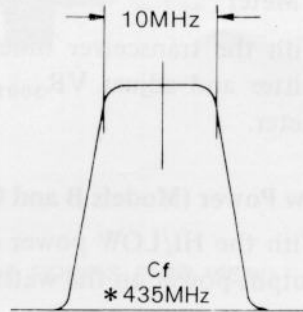

Figure 2
3. Connect the output of the sweep generator to the antenna jack, and the input to  $R_{1010}$ . Disconnect  $P_{14}$  and adjust  $CV_{1001}$ ,  $CV_{1002}$  and  $TC_{1002}$  to obtain the passband of Figure 2.